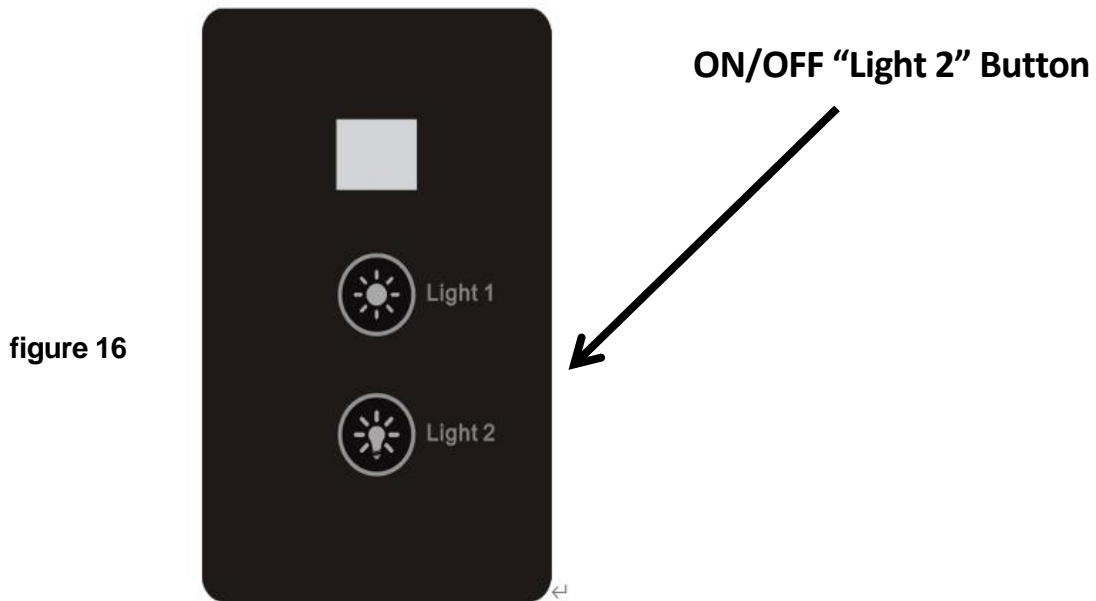

**figure 15**
provided (7) rain cover pushpins for each side to secure the rain cover at the front and rear of the sauna barrel. The remaining (8) rain cover pushpins are to be used to secure the horizontal edges for each side. See figure 15.